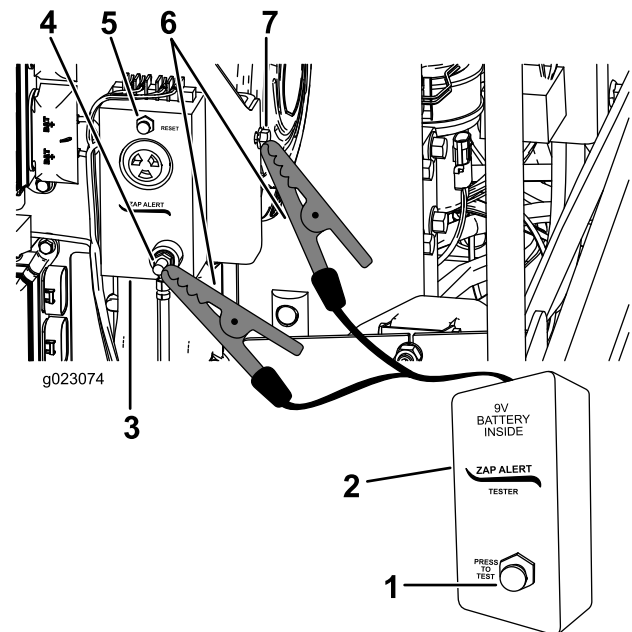

Figure 63
3. Connect an alligator clip from the Zap-Alert tester to the grounding stud on the Zap-Alert system (Figure 63).
5. Press the Test button on the Zap-Alert tester (Figure 63).
6. Press the Zap-Alert reset button to stop the alarm (Figure 63).